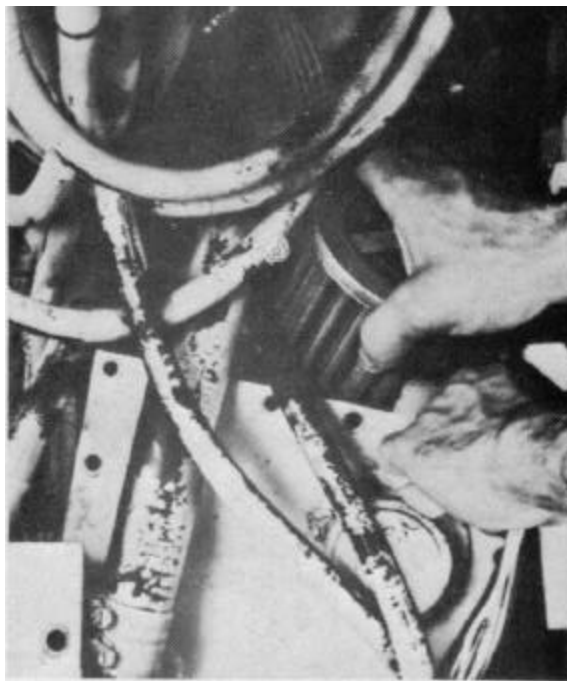

Figure 5-138
10. Hold the access cover open with one hand while reaching into the reservoir with the other. Pull the baffle forward and rotate it so that the suction filter is uncovered. The suction filter may be removed by turning it counterclockwise with only one hand. Withdraw the suction filter only from the reservoir (Fig. 5-138). Replace with a new filter element.
11. Insert the new suction filter into the reservoir (Fig. 5-138). Hand tighten as hard as possible the filter inside the baffle. (Reference Pg. 4-85). Check "O" ring (Reference Pg. 4-83, item 8) replace if damaged. Turn the baffle assembly over and insert the threaded end into the mounting ring at the end of the reservoir.